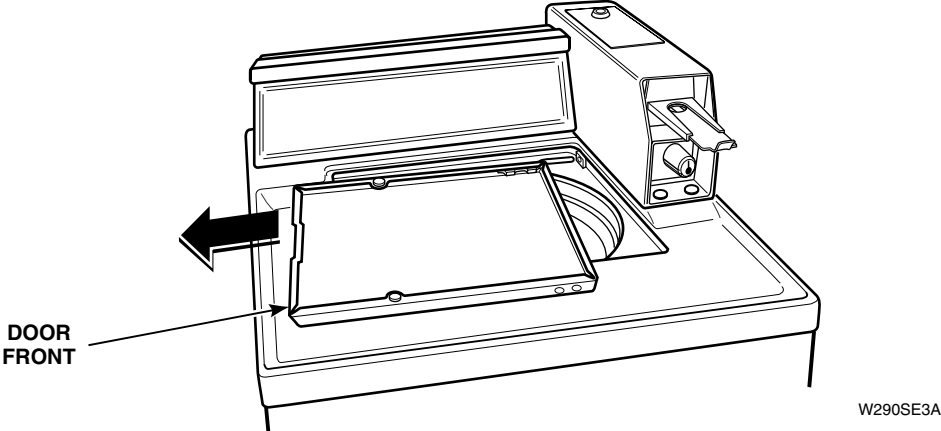

Figure 28
- With loading door raised to vertical position, swing left side of door toward front of washer. Refer to *Figure 28*, **procedure one**.
- Rotate loading door so door is upside down. Refer to *Figure 28*, **procedure two**.
- Remove loading door, right door hinge and bushing from cabinet top. Refer to *Figure 28*, **procedure three**.